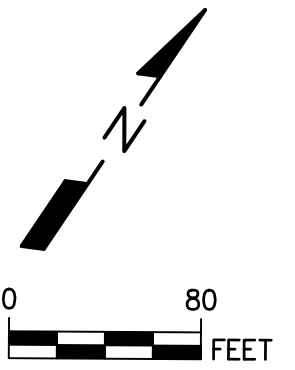

FIGURE 3
As shown in Figure 3, the existing, public, potable water line in Grand Avenue will need to be upsized to serve the project. The project proposes to upsized the Grand Avenue line to an 8-inch line from the intersection with Hope Avenue east to the existing 8-inch line in the easement.
Fire Protection Service. Fire protection service will be provided to the Hope Apartments project site by a minimum 8-inch service connection to the public water line in Grand Avenue, Figure 3 shows the location of this connection and service. This service will be required to have a minimum 8-inch backflow preventer. The Hope Apartments project will have one private, onsite fire hydrant connected via a minimum 8-inch private water line.
Domestic Water Service. Domestic water service will be provided to the Hope Apartments site with one domestic water meter connected to existing 255 Pressure Zone piping. Figure 3 shows the proposed location of the domestic service, water meter, and backflow preventer.
Analysis of Computer Model Results. The results in Appendix D show that the water system presented in Figure 3 is adequate for domestic service and fire protection. To abide by City of Carlsbad design criteria, velocities must be below 15 fps during maximum day demand plus fire flow. Under maximum day demand plus fire flow, the results of the computer runs show that 4,000 gpm fire flow can be provided to the hydrants with minimum residual pressure of 33 psi and a maximum velocity of 14.1 fps. Under peak hour demand, the results of the computer runs show that minimum residual pressures are 63 psi and maximum pipe velocities are 0.66 fps.
2. Water service will include two connections to the existing public water system: one connection will be made for the private domestic water system and one connection will be made for the private fire protection system. Figure 3 presents the locations of these connections and public water system improvements.